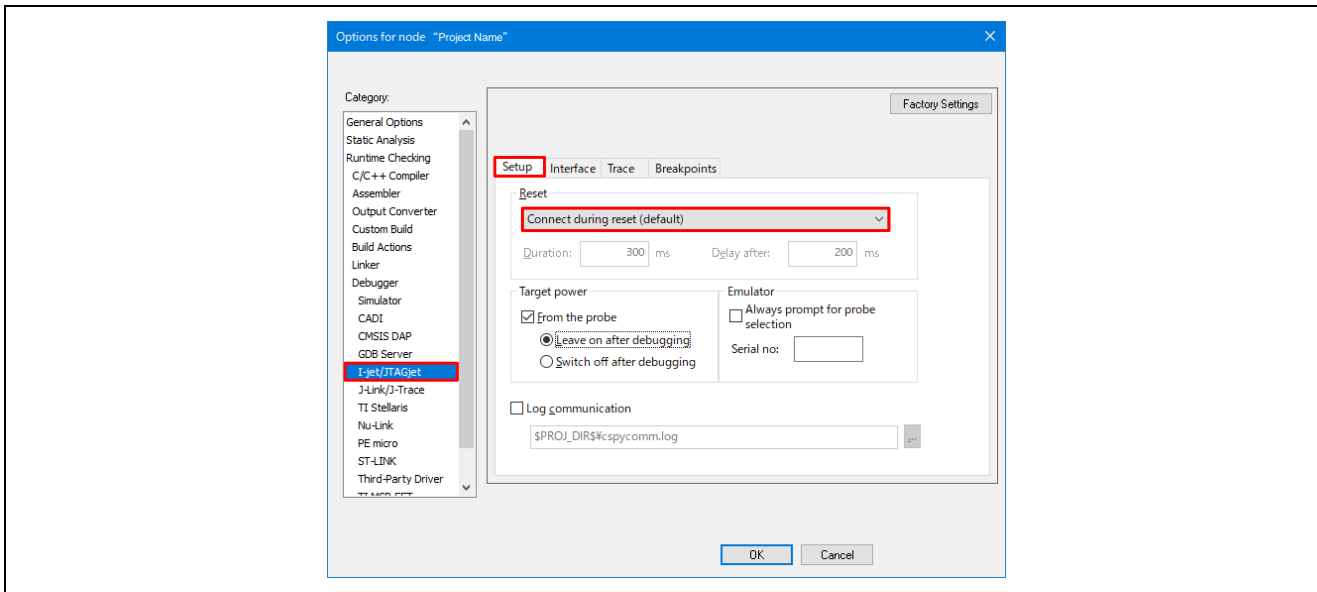

Figure 7-3 Setting of IAR EWARM (1/2)
- [Connect during reset (default)] is selected in [setup] -> [Reset] (See Figure 7-3)